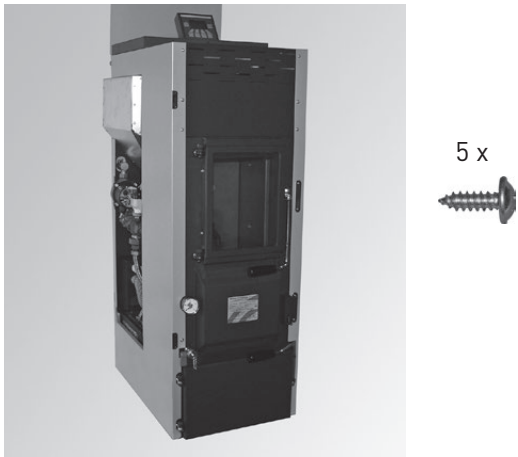

Fig. 33 Mounting the right side panel in the same way as the left side panel
- Secure the “right side panel” (part 6) to the boiler at the rear using 3 screws, at the front using 2 screws and screw onto the “front cover plate” (part 3) – Fig. 33.